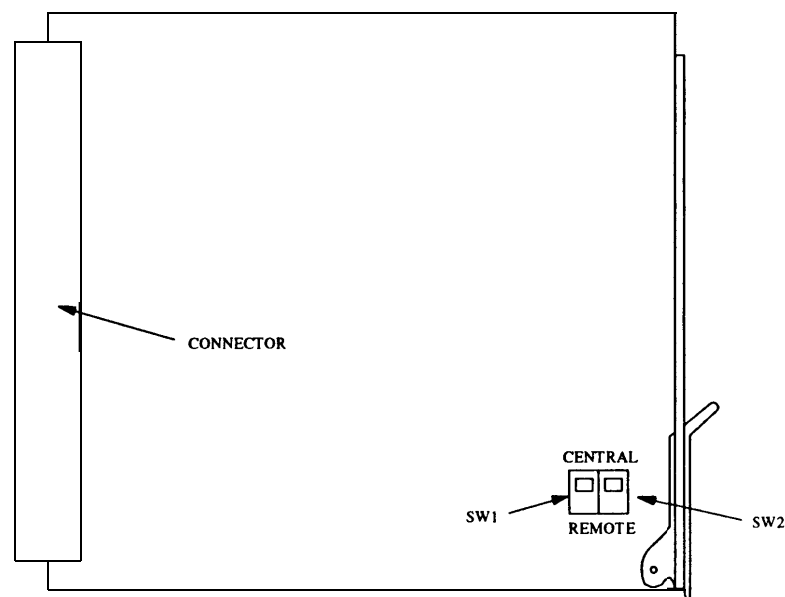

Figure 28-35. Option Switch Locations for TN456 Circuit Pack
4. Set option switches 1 and 2 (slide-type) on each TN456 circuit pack to **CENTRAL** or **REMOTE** for the location of the MC carrier where the circuit pack will be placed. Figure 28-35 shows the TN456 circuit pack and switch locations.